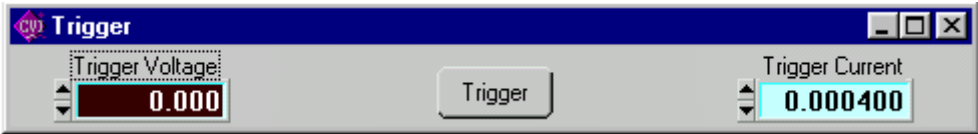

FIGURE 6. TRIGGER WINDOW
2.2.6 The **Trigger** button opens the Trigger window (Figure 6) which allows setting of trigger voltage and current values. Clicking the Trigger button within the Trigger window causes the power supply output to be programmed to the settings stored in the Trigger Voltage and Trigger Current displays. .